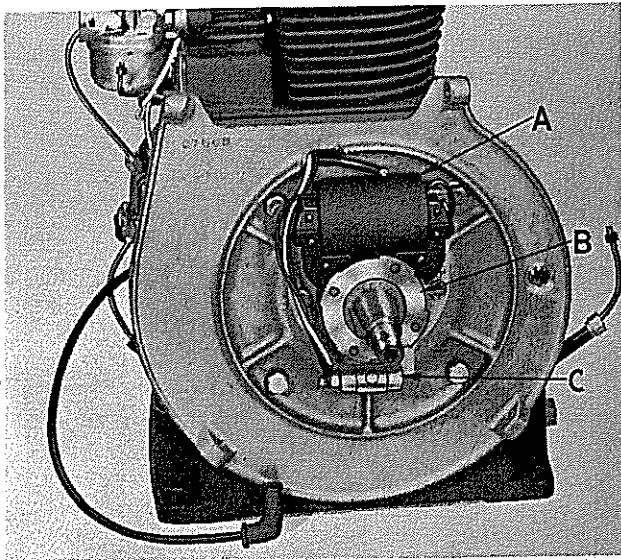

Figure 5
- a. K330/K331 engines equipped with the Bendix-Scintilla magneto are as shown in Figure 5.